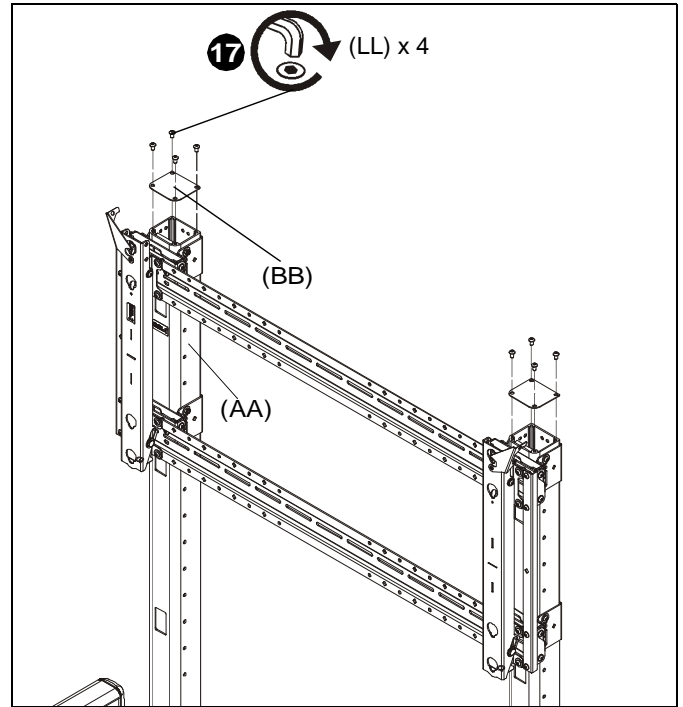

Figure 12
17. Use four 5/16-18 x 1/2" button head cap screws (LL) to secure each column cap (BB) to each column (AA). (See Figure 12)